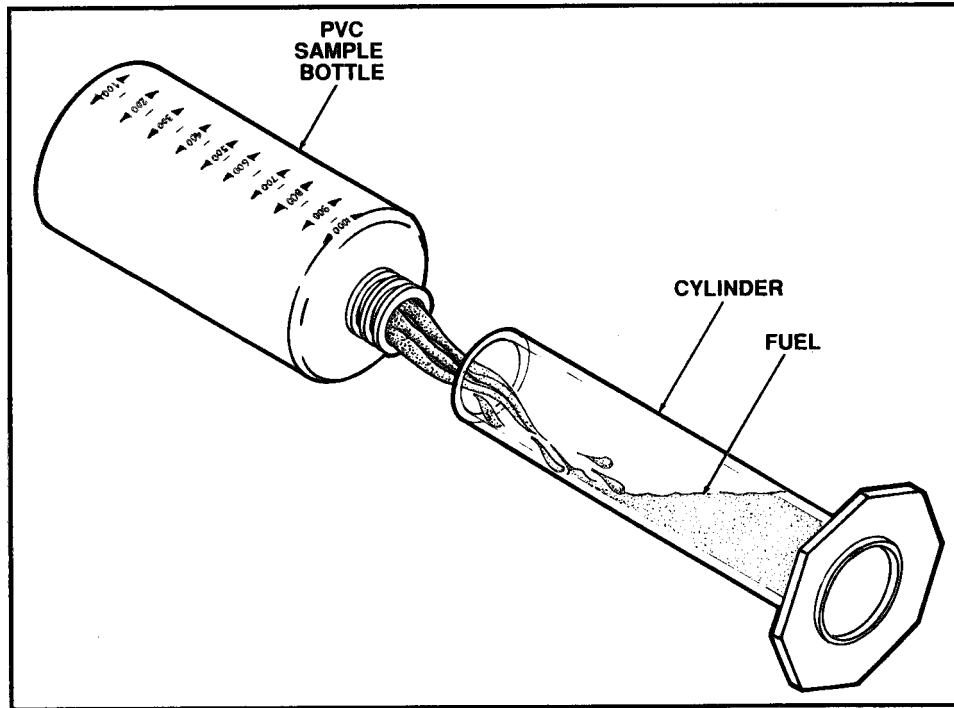

Figure 2.17 Filling the Plastic Cylinder
- a.** Fill the clear plastic cylinder half-full with fuel--pour **the fuel at an angle to minimize air entrapment** (Figure 2.17).